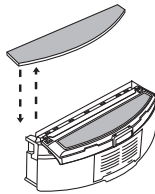

Fig. 2
4. You can then attach one mop pad to the velcro (refer Fig. 2).